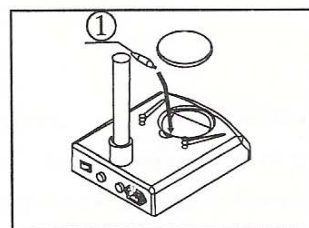

Fig. 12
- 4) Recover the stage plate. (Fig.12)